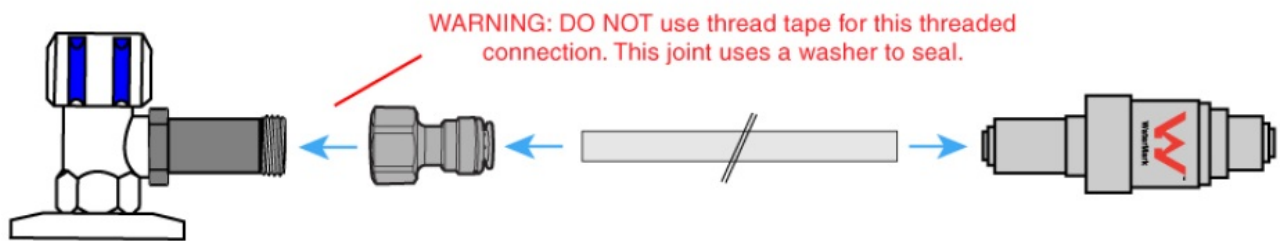

Fig.3 Install 1/2" F to 3/8" Tube fitting to DCV. Install tubing between Fitting and PLV
2. Connect the supplied 1/2" Female adaptor to the Dual Check Valve, the adaptor uses a washer type seal so no thread tape is required. Measure, cut and install tubing between this point and the PLV as shown in Fig.3.